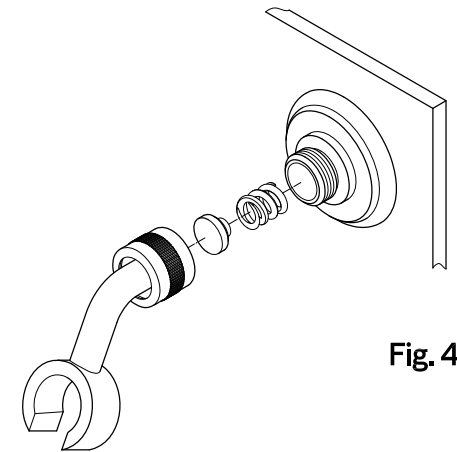

Fig. 4
- Step 5. Place the spring, metal washer and bracket set in the base and hand tighten in clockwise till fully secure (Fig. 4).